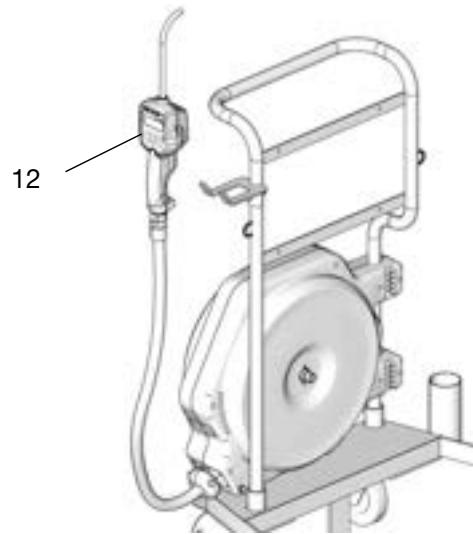

FIG. 33
5. Install the dispense device (12) to the end of the hose and tighten fitting securely (FIG. 33).